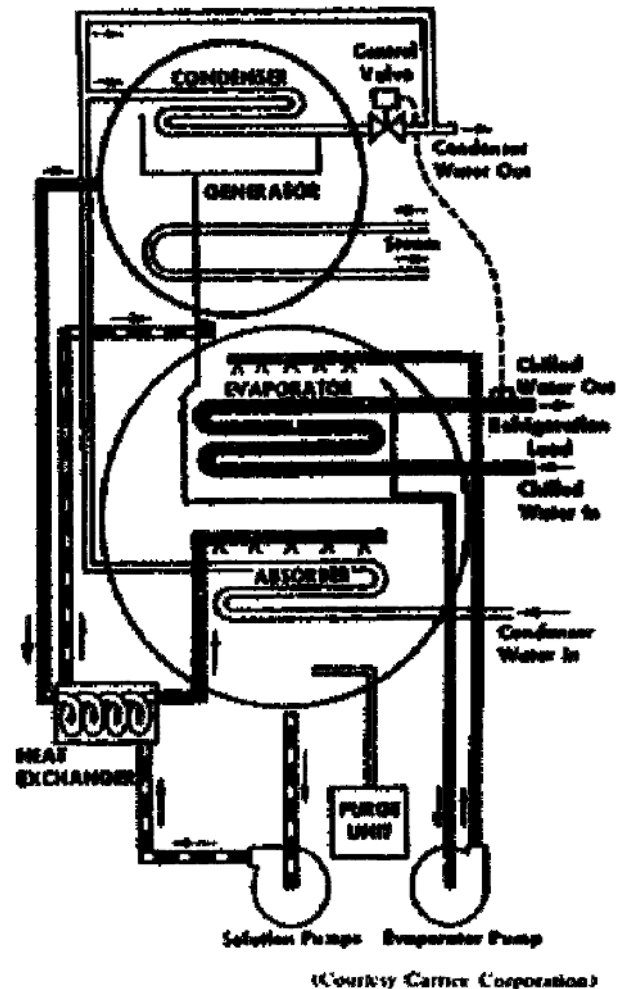
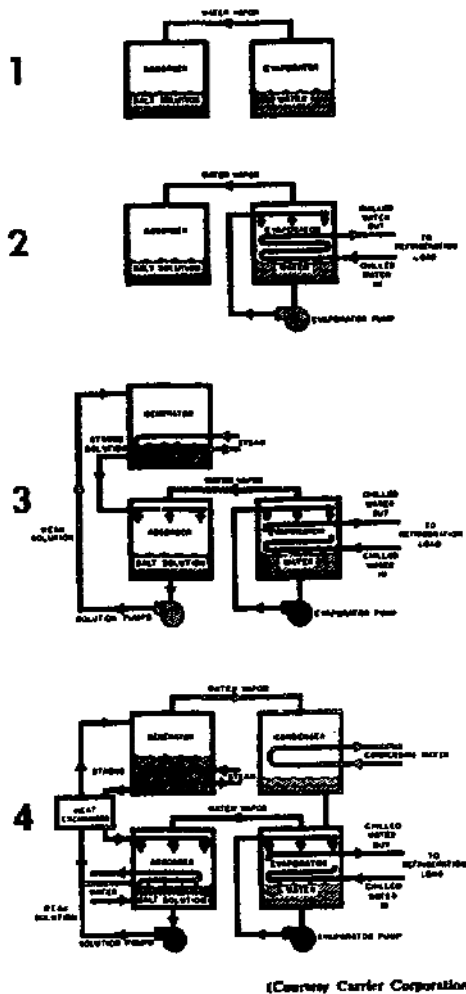

Figure 27. Absorption unit components.
Figure 28. Absorption refrigeration cycle.
1. The complete absorption refrigeration unit contains a generator, a condenser, an absorber, and an evaporator. The condenser and generator are combined in the upper shell of the machine, while the evaporator and absorber are combined in the lower shell, as shown in figure 27.
3. Figure 28 is a simple block diagram of the absorption refrigeration cycle. The refrigerant used is common tap water and the absorbent is a special salt, lithium bromide.
4. To understand the operation of the refrigeration cycle, consider two self-contained vessels: one containing the salt solution (absorber) and the other (evaporator) containing water, joined together as shown in item 1 of figure 28. Ordinary table salt absorbs water vapor when it is exposed to damp weather. The salt solution in the absorber has a much greater ability to absorb the water vapor from the evaporator. The water in the evaporator boiling at a low temperature does the same job as refrigerants R-12, R-13, and R-22. As the water vaporizes, the water vapor travels from the evaporator to the absorber, where it is absorbed into the salt solution. The evaporator pump, shown in item 2 of figure 28, circulates water from the evaporator tank to a spray header to wet the surface of the coil. The cooling effect of the spray boiling at approximately 40° F. on the coil surface chills the water inside the coil, and this chilled water is
5. In reference to item 3 of figure 28, note the addition of the generator and accessory equipment. These components are necessary for continuous and efficient operation. The salt solution would become diluted and the action stopped if it were not for the regeneration of the salt solution. To keep the salt solution in the absorber at its proper strength so that it will have the ability to absorb water, the salt solution is pumped to a generator where heat is used to raise its temperature and boil off the excess water. The salt concentrate is then returned to the absorber to continue its cycle. The water that is boiled off from the salt solution in the generator is condensed in the condenser and returned to the evaporator as shown in item 4 of
figure 28. The heat exchanger uses a hot solution from the generator to preheat the diluted solution. This raises the overall efficiency because less heat will be required to bring the diluted solution to a boil. Condensing water, which is circulated through the coils of the absorber and the condenser, removes waste heat from the unit. By comparing figure 29 with figure 27, you will get a better understanding of the relation between basic operating principles and an actual installation.